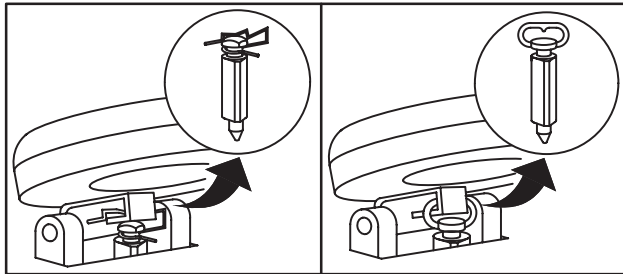

Fig. 264 – INLET NEEDLE VALVE VARIATIONS
1. Install inlet needle to float as shown, Fig. 264.